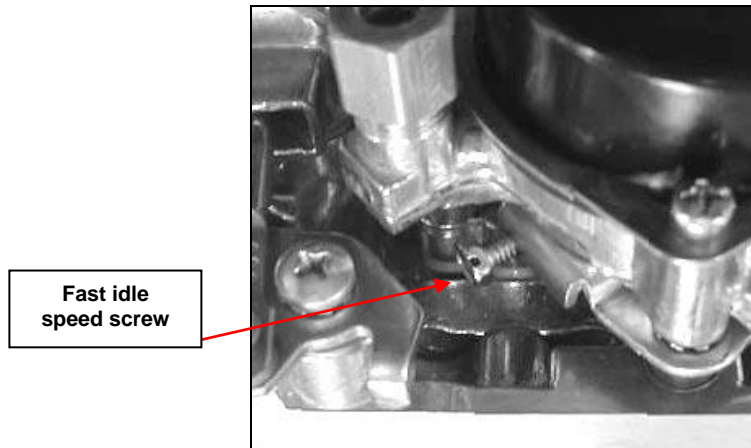

Figure 9
3. If the fast idle RPM is too low or too high for your preferences, TURN THE ENGINE OFF. Advance the throttle to wide-open, exposing the fast idle set screw below the choke housing (See **Figure 9**).